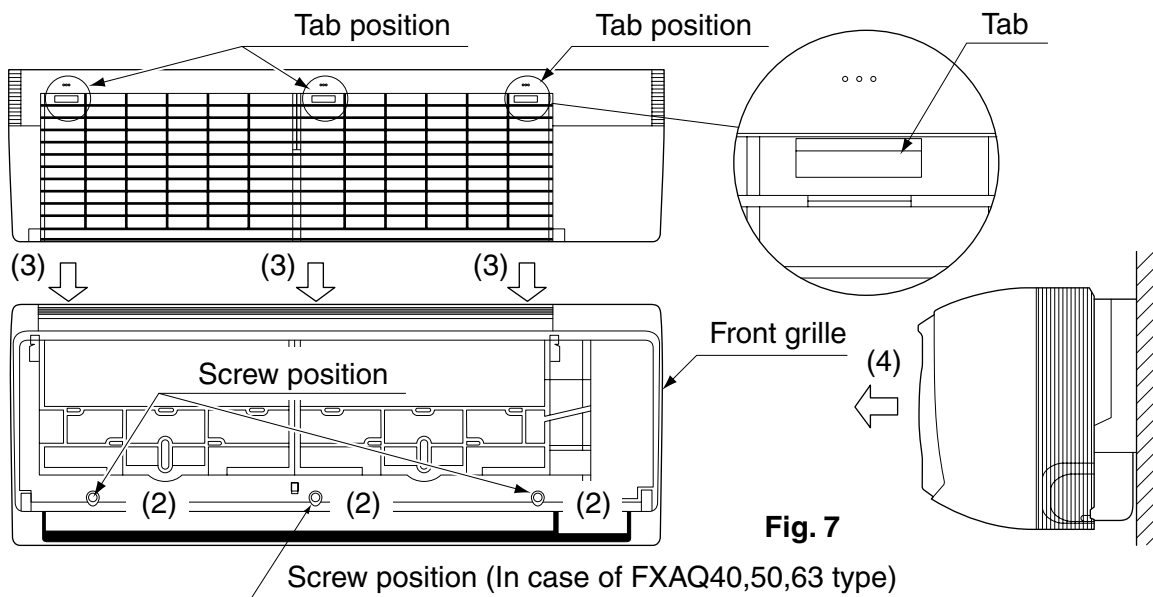
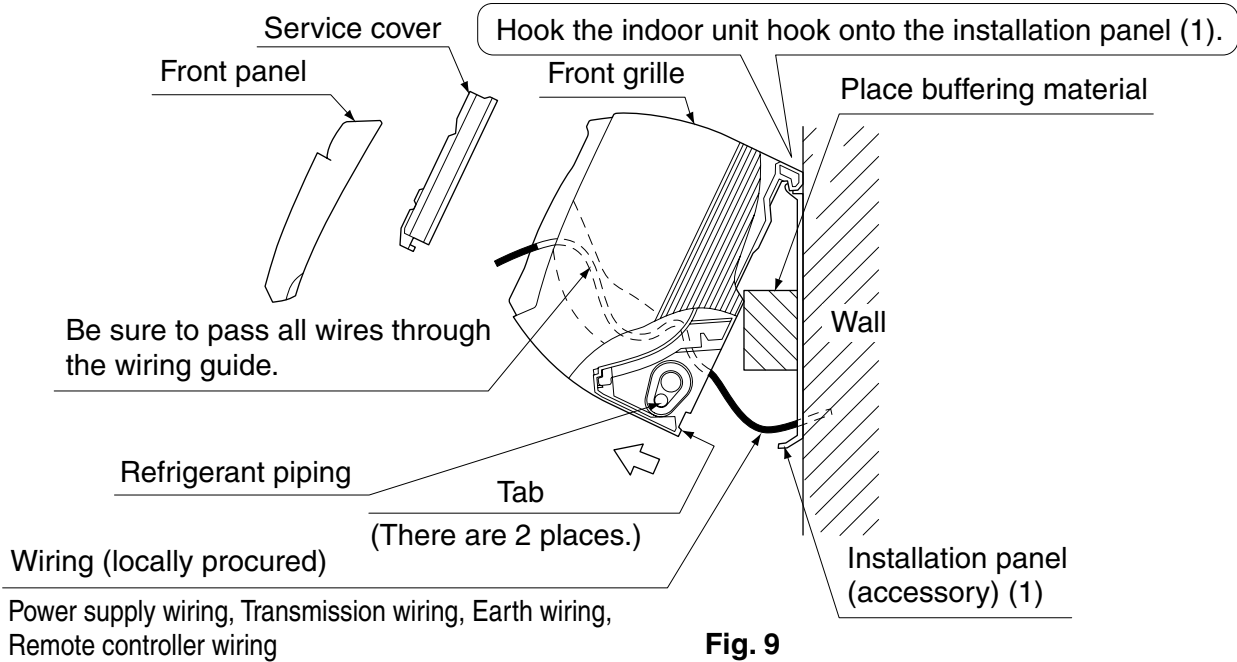

Fig. 7
Fig. 9
- Remove the front grille. (Refer to Fig. 7)
(6) Hook the indoor unit onto the installation panel. (Refer to Fig. 9)
(9) Push on both bottom edges of the indoor unit using both hands and hook the tab on the back of the indoor unit onto the installation panel (1). (Refer to Fig. 9)
- At this time remove the buffering material placed in step (6).